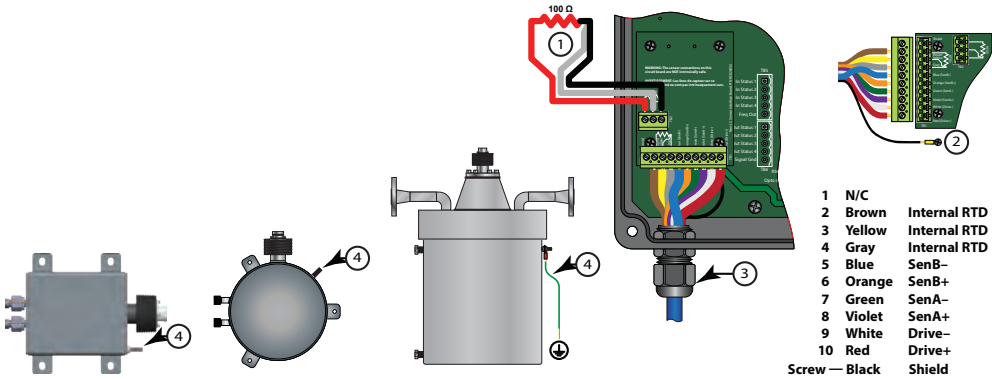

Figure 32: RCTN sensor connections
9. Unplug the ten-pin connector on the interface board and attach the sensor cable to the appropriate wire color codes. See *Figure 32*.
12. All RCS sensors are equipped with a 1/4 in. threaded ground stud. Connect this stud to a protective (earth) ground with a minimum of a 10 AWG conductor. See *Figure 22 on page 23* and *Figure 32 on page 33*.